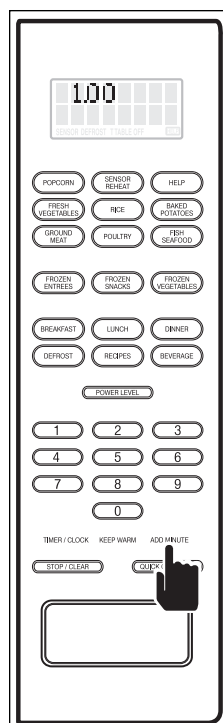

Figure 3-33.
- If the microwave oven is off and the ADD MINUTE key is pressed, the microwave oven will automatically switch to Time Cook Mode at 100% power for one minute (See Figure 3-33). At the end of the cooking time, “END” will flash on the display and the alarm will beep.